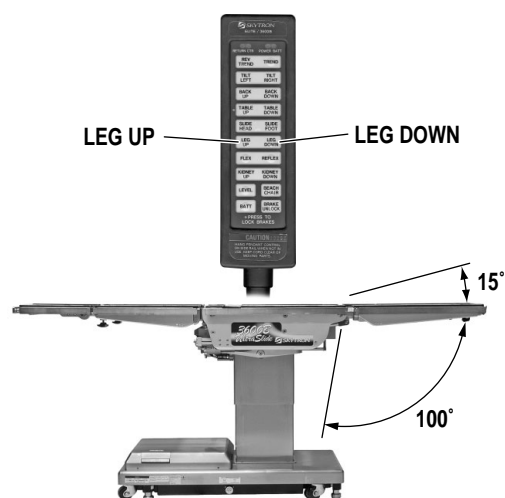

Figure 2-11. Leg Section Positioning
**g. Leg Section.** To lower the leg section, press the LEG DOWN button (figure 2-11). The leg section will go down to 100° below horizontal. To raise the leg section, press the LEG UP button. The leg section will go up to 15° above horizontal.